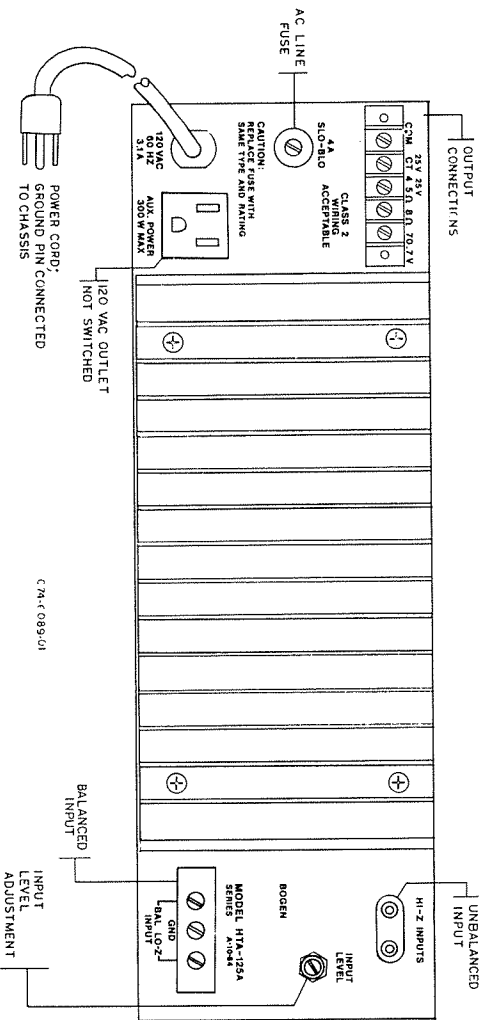

Figure 1 — HTA-125A Rear Panel Connection Diagram
**LOW-IMPEDANCE BALANCED INPUT.** A balanced input, provided at the BAL LO-Z terminal strip (Figures 1, 3), requires the installation of a Bogen Model TL-600 line-matching transformer. Remove the top cover of the unit and install the transformer in the socket designated T1 provided on the printed circuit board. An input signal of 100mV is required for full rated output.
**HIGH-IMPEDANCE INPUT.** A high-impedance input is provided by two RCA-type 1/4" phono jacks (see Figures 1, 3). An input signal of 500mV is required for full rated output.
Output connections are available on the rear panel terminal strip for 4-ohm, 8-ohm, 25V, 25VCT, and 70.7V (the 4-ohm output is combined with the 25V tap on the HTA-125A). Figures 1 and 3 show the location of the output terminal strip. Class 2 wiring is acceptable for output loads. Refer to Note 2 on the schematic diagram for 4-ohm output impedance in the HTA-125A.